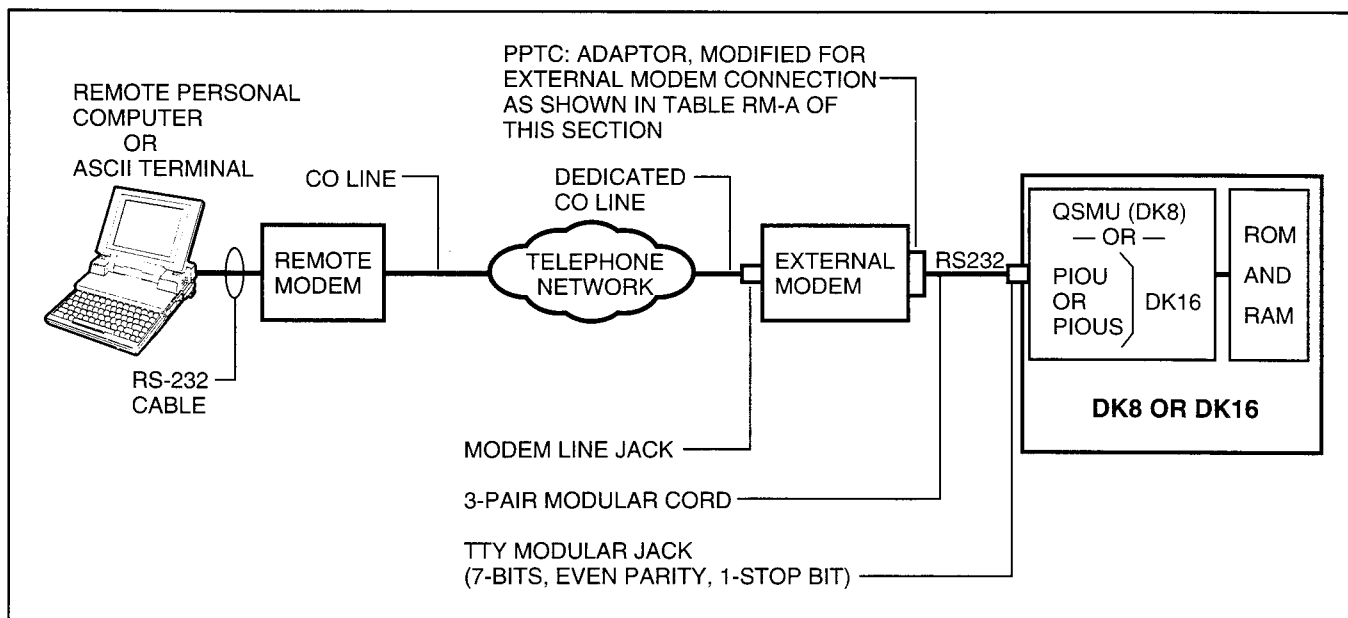
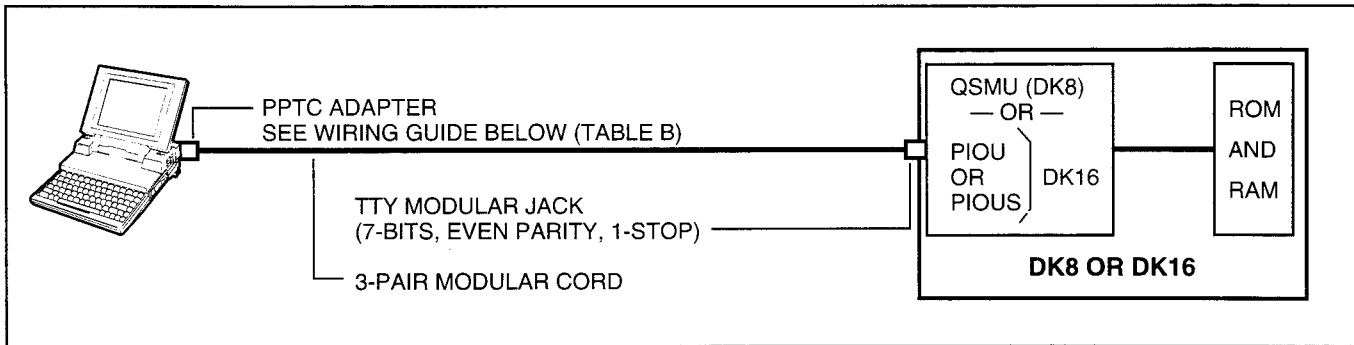

FIGURE 2
FIGURE 5
2.01 With the STRATA DK8, Remote Administration and Maintenance is accomplished with a remote terminal/modem communicating over the public telephone network, but only via an external modem connected to a dedicated CO line or standard telephone port. See Figures 2 and 3. With STRATA DK16 Remote Administration and Maintenance is accomplished with a remote terminal/modem communicating over the public telephone network via either an external modem (connected to a dedicated CO line or a standard telephone port); or, a modem unit (IMDU) installed on a PIOU or PIOUS PCB in the Expansion Unit. See Figures 2, 3 and 4.
All the functions in the preceding paragraphs are also available via an on-site terminal connected directly to an optional PIOU(S) PCB with DK16, or the optional QSMU PCB with DK8. These functions are also available to a terminal with a modem connected to a standard telephone port (Paragraph 5 and Figure 5).
3.01 For Remote Administration and Maintenance operation, the STRATA DK16 system must be configured with either an IMDU-equipped PIOU(S) PCB in the optional Expansion Unit or an external modem connected to a PIOUS(S) and a dedicated CO line or standard telephone circuit. (See Figures 2, 3, and 4.) The STRATA DK8 must be configured with a QSMU PCB and an external modem connected to a dedicated CO line or standard telephone circuit. (See Figures 2 and 3.)
- A customer-supplied maintenance terminal can be connected to the system TTY port (DK8 QSMU, or DK16 PIOU or PIOUS) via an external modem either locally (Figure 5) or remotely (Figures 2 and 3).
1. An external modem is required for Remote Maintenance if a QSMU is installed on DK8, or if an IMDU is not installed on DK16 PIOU or PIOUS. The IMDU has a built-in maintenance channel for remote connection; however, an external modem requires a CO line or standard telephone port (Figures 2 and 3).
4.21 Install the ASCII terminal in accordance with the following steps (Figure 5):
4.32 **DK8 and DK16 External Maintenance Modem Installation.** Refer to Figure 2 or 3, as applicable, and install the external modem in accordance with the following steps:
5.01 For DK16, the optional Expansion Unit must have a PIOU or PIOUS PCB installed to perform on-site Remote Administration from a local terminal. For DK8, a QSMU PCB is required. Paragraph 4 and Figure 5 provide installation details on local terminal installation.
5.02 The local terminal for either the STRATA DK16 or the DK8 must have an EIA RS-232 interface, communicate in ASCII code at 300 or 1200 bps (1200 bps only for DK8), have a standard typewriter-type keyboard, and display data via a CRT display or printer. A personal computer (PC) capable of emulating the described terminal with a communications software package (such as PROCOMM) may also be used (Figure 5).